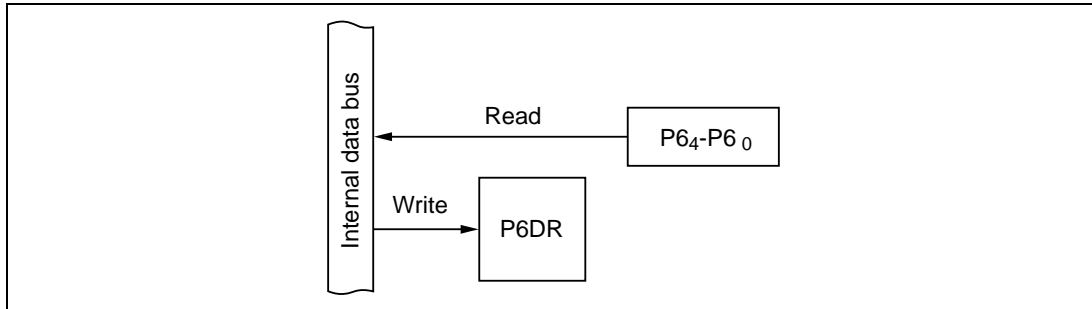

Figure 10-36 Input Port (Modes 1 to 7)
(1) Input Port (Modes 1 to 7): Figure 10-36 shows a block diagram illustrating the general-purpose input function. Table 10-27 indicates register read/write data. Values written in the port 6 data register (P6DR) have no effect on general-purpose input lines. When read, P6DR returns the value at the pin.